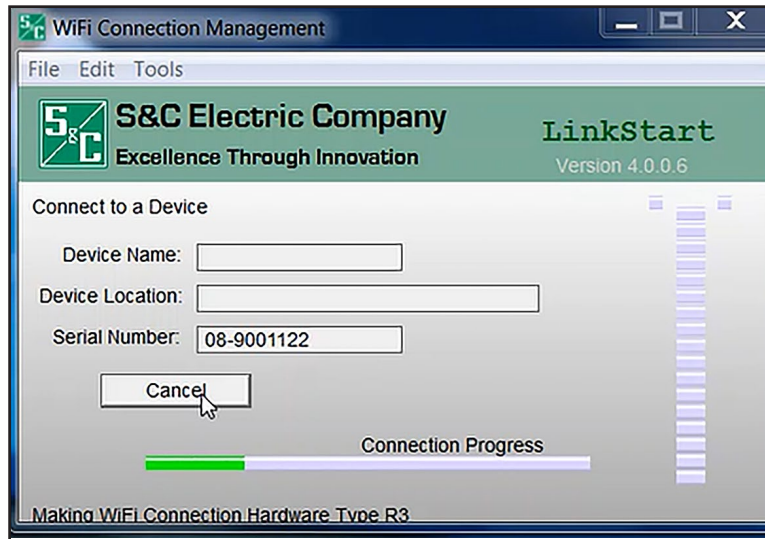

Figure 6. The **Connection Progress** status bar.
- STEP 3.** The **Connect** button changes to the **Cancel** button, and connection progress is shown on the **Connection Progress** status bar. See Figure 6.